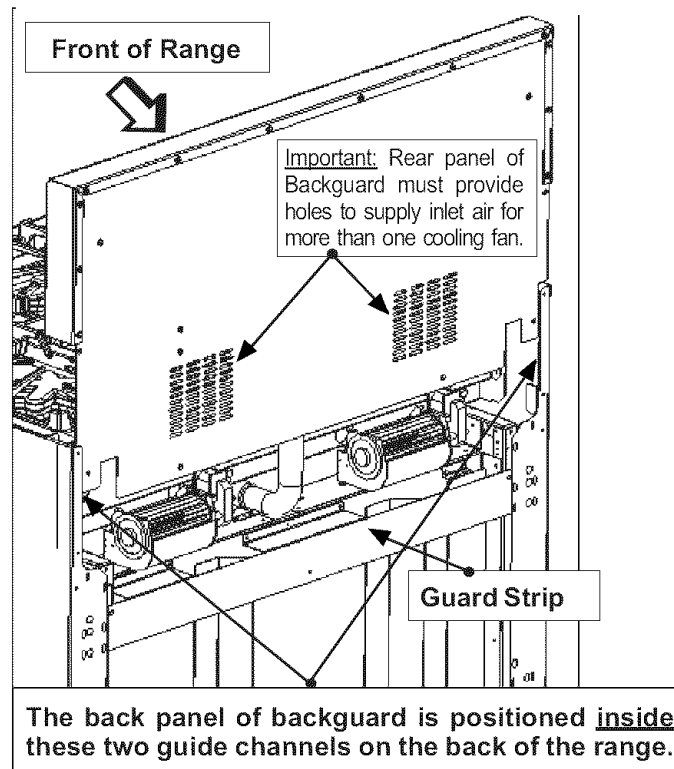

Figure 15: Backguard Positioning
- The backguard is inserted inside the guide channels on the back of the range, as shown in the illustration Figure 15. (Remove the griddle or grill assembly for sufficient installation clearance on these model ranges.)